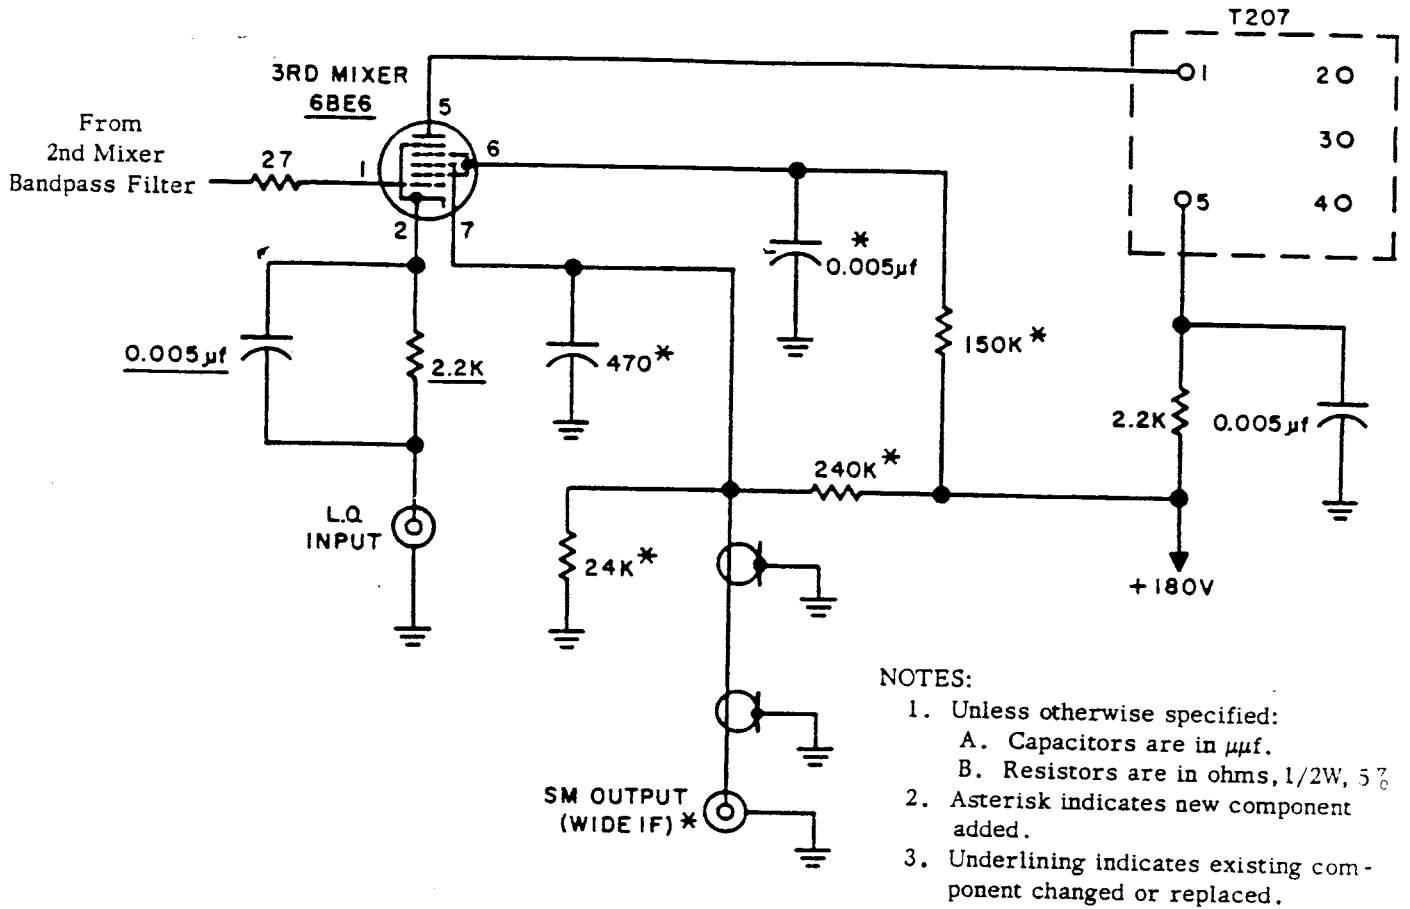
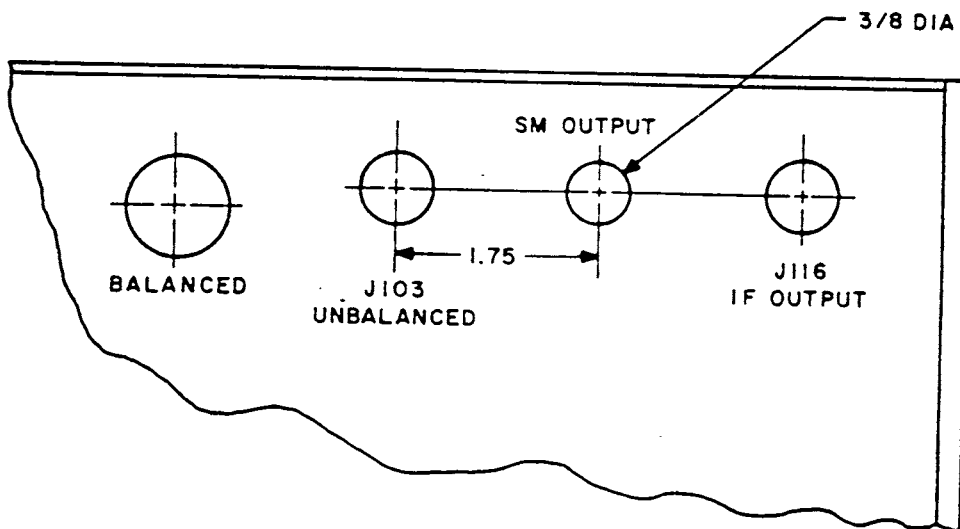

Figure 3-1. R390 Receiver, Modifications to Third Mixer Stage
Figure 3-2. R390 Receiver, Modifications to Rear Apron
- (1) Remove the RF subchassis as described in the unit Technical Manual.
- (2) Remove the type 6C4 third mixer tube and replace with a type 6BE6 tube.
- (3) Change the wiring around the third mixer tube socket as shown in the modified circuit diagram, Figure 3-1. The existing 2.2K resistor and 0.005 μf capacitor on pin 7 of the third mixer tube socket should be removed and discarded. New components of the same value should be installed on pin 2.
- (4) Route the RG-174/U coax through the openings in the chassis divider sections and out the grommet in the RF subchassis with the other cables.
- (5) Drill the connector mounting hole in the rear apron of the receiver as shown in Figure 3-2.
- (6) Install the BNC type (UG-1094/U) connector with the ground lug in the mounting hole.
- (7) Replace the RF subchassis in the receiver as described in the unit Technical Manual.
- (8) Connect the inner conductor of the RG-174/U cable to the BNC connector. Connect the outer shield to the ground lug.
- (9) Make all necessary changes in the receiver Technical Manual to reflect the work performed in this modification.
- (10) The modification is now complete. The receiver should not require an alignment as a result of these changes.